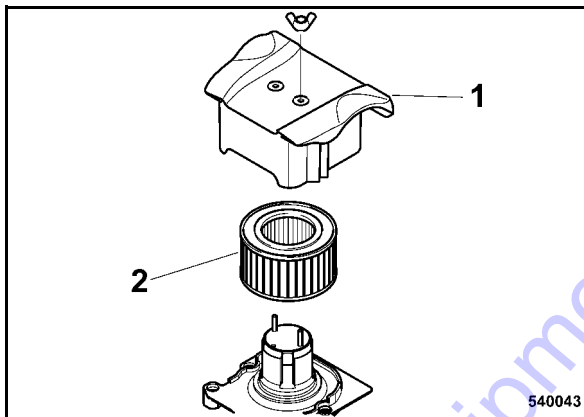

Fig. 54
- Remove cover (1) (Fig. 54), carefully take out filter cartridge (2).